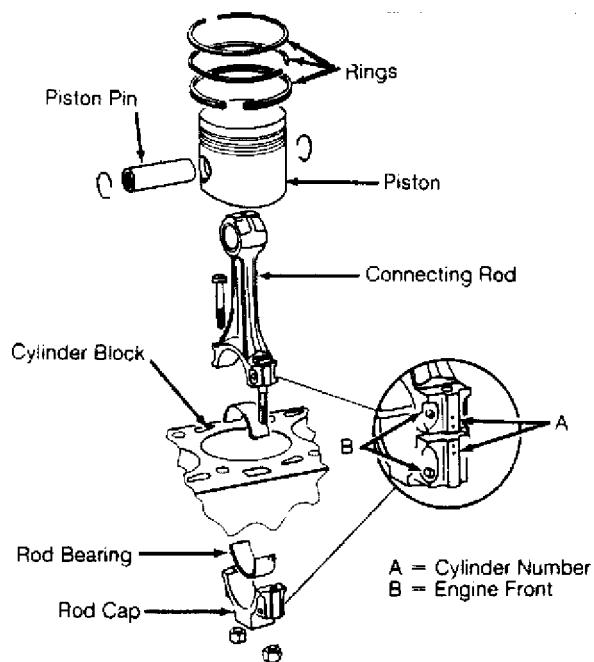

Fig. 19: Assembling Piston & Rod
1) Make sure piston, rod and rod caps are marked with matching cylinder number prior to removal. Ensure engine front arrow is marked on top of piston. See Fig. 19. Pistons and rods are to be replaced in sets of 4. Rod cap bolts and nuts must be replaced after removing or loosening.
2) Mark piston in relation to pin. Remove circlips from ends of pin bore. Use Piston Pin Replacer/Installer (VW 207C) to remove and install piston pin. If pin is too tight, heat piston to 140øF (60øC). Ensure rod is properly positioned with piston. See Fig. 19.
Measure ring end gap. Measure ring side clearance with piston. If not within specification, replace as necessary. See PISTONS, PINS & RINGS TABLE under ENGINE SPECIFICATIONS at end of article. Install rings on piston with TOP mark facing upward. Recessed edge on outside of center ring must face piston pin (down). Position ring ends. See Fig. 19.